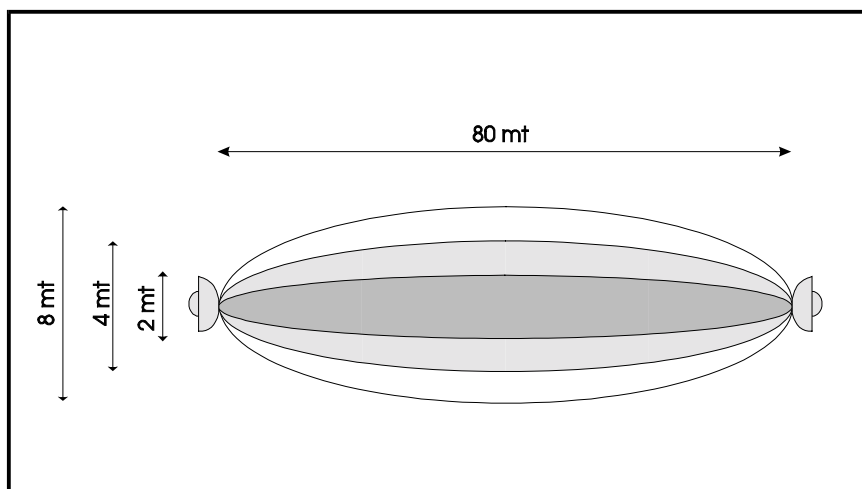

Figure 3 - Variation of the dimension of the sensitive zone on the variation of the sensitivity
- **The level of sensitivity set up on the receiver**, according to a particular antenna, ensures that the microwave barriers can have a sensitivity to more or less intense disturbance signals. Bear in mind that the weaker signals come from more peripheral zones of the field, while the more intense signals come from central zones. Thus it is clear that the regulation of the sensitivity causes a corresponding variation of the height and breadth of the field of protection. The length, on the other hand, is determined exclusively by the distance between transmitter and receiver (FIG. 3).